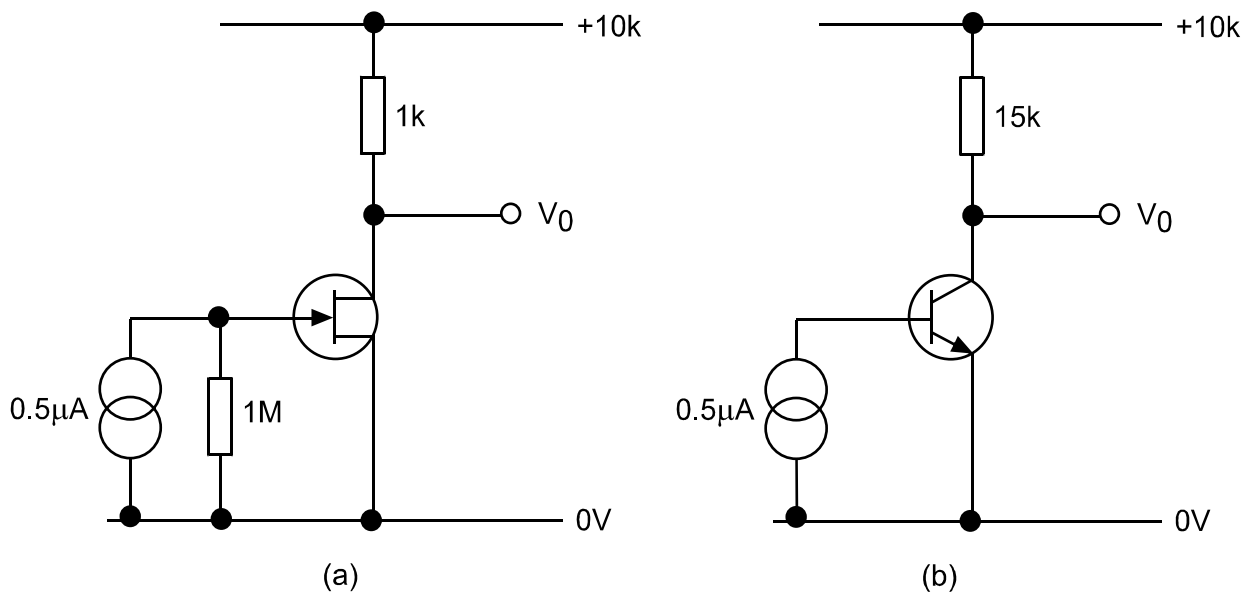

Fig 2.16
2. The transistor in fig 2.16(b) has a current gain of 250 while the FET of fig 2.16(a) has a voltage gain of 5. A current generator supplies a sinusoidal current of $0.5 \mu\text{A}$ rms to be amplified. Assuming that suitable bias arrangements exist so that both amplifiers operate in class A, which circuit gives the greater ac output voltage?